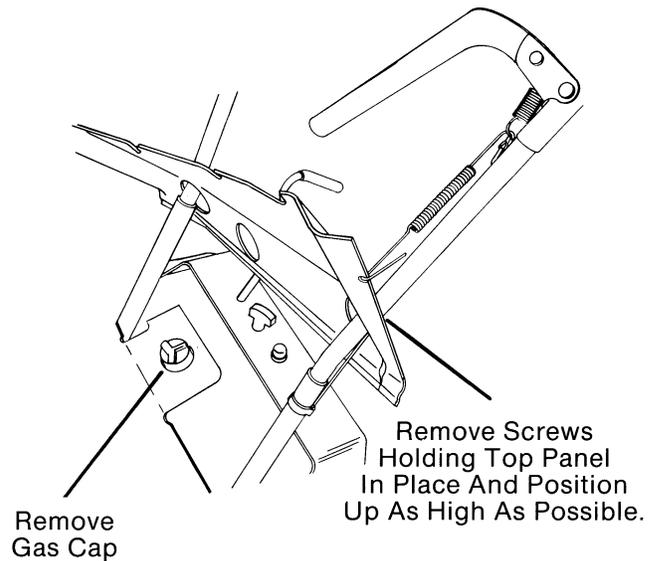

FIG. 9
- B. Remove screws securing top panel in place. Pull panel up and position as high as possible. (Fig. 9)
- A. Remove gas cap and remove screws securing top panel in place. Pull panel up and position as high as possible. (Fig. 9) Reinstall gas cap.